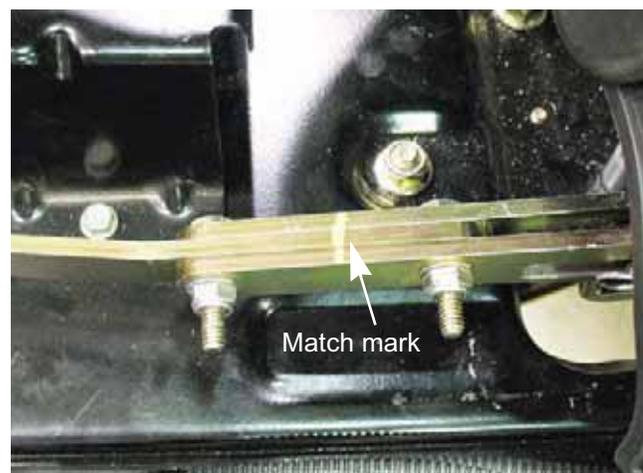

Figure 6B.26
2. Match mark the drive control link between the two nuts and bolts. See Figure 6B.26.